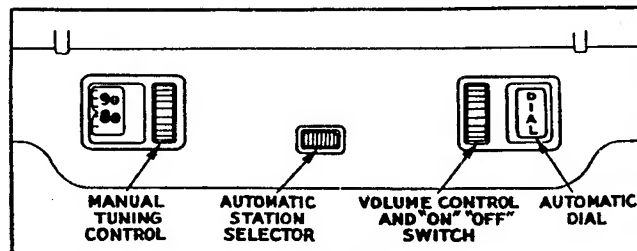
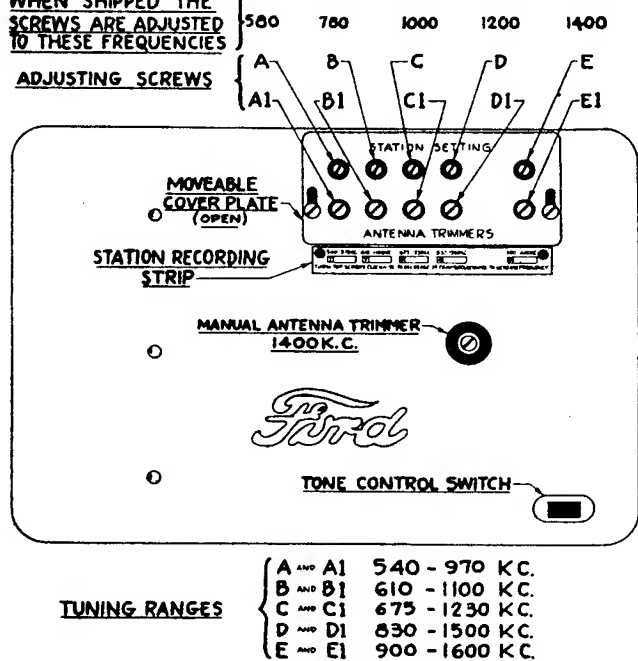

FIG. 2
FIG. 4
When eccentric or oscillating trip groove records are used, tripping is effected by means of the hardened steel pin in the end of tone arm lift crank at S Fig. 2 engaging the serrated block on the trip lever at T Fig. 2. There must be a minimum of $1/32''$ play between the end of the pin and the block, when, with a short needle, ($5/8''$ Minimum Length) the pickup is resting on one record on the turntable. If the pressure of the pin on the block is not sufficient to insure operation, then check the pressure spring which is located up under the pickup.
If the pickup descends too fast or too slow, adjust the speed of descent by turning the knurled thumb nut on the dashpot sleeve at W Fig. 2.
The unit is adjusted at the factory so that the needle will be set down approximately $3/32''$ in from the edge of the record. An adjusting screw is provided on the side of the pickup at M Fig. 2. If the needle is being lowered onto the playing surface of the record, and the adjusting screw at M Fig. 2 fails to correct the condition proceed as follows: First stop the record changer, with the pickup in the maximum raised position and check the clearance between the underside of the pickup shelf at Z Fig. 2 and the tip of
the dashpot. This clearance should be very small as otherwise the pickup will tend to bounce as it is lowered. There must be sufficient clearance however to prevent the pickup shelf from rubbing on the tip of the dash pot, or the pickup will not swing out far enough to allow the adjustable stop at K Fig. 2 to come to rest against the dashpot. Check this clearance in both 10" and 12" record positions. If adjustment is required, the height of the dashpot may be regulated by loosening the nuts on the bottom of the lift lever stud at X Fig. 4 and changing their position on the stud. To raise the dashpot turn the nuts clockwise, to lower the dashpot turn the nuts counter-clockwise. Be sure to lock the nuts tightly together after the adjustment is made.
AUTOMATIC TUNING ADJUSTMENTS: 1. Turn the receiver on and allow it to operate until thoroughly heated. Loosen the screws holding the cover plate over the automatic adjustments, and slide it upward exposing the adjusting screws and recording strip. This plate is on the front of the receiver. (See Fig. 4.) 2. Push the automatic station selector button until the word "Dial" is at the automatic dial window. Tune in manually the station whose call letters are in the No. 1 position on the dial (the lowest frequency station—see Fig. 3) and note the program so that it can be identified. Push the automatic station selector button once, and this station's call letters will appear at the automatic window.
3. With a small screw driver, turn the station setting screw A (see Fig. 4) in the upper row to the right or left until that station is tuned in accurately.